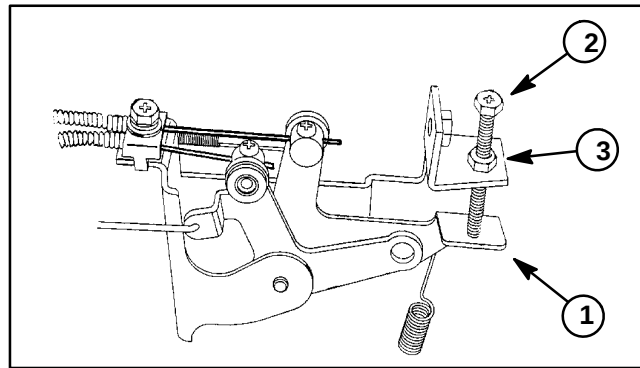

Figure 4
5. If high idle speed is incorrect, adjust high speed screw on governor bracket (Fig. 4).